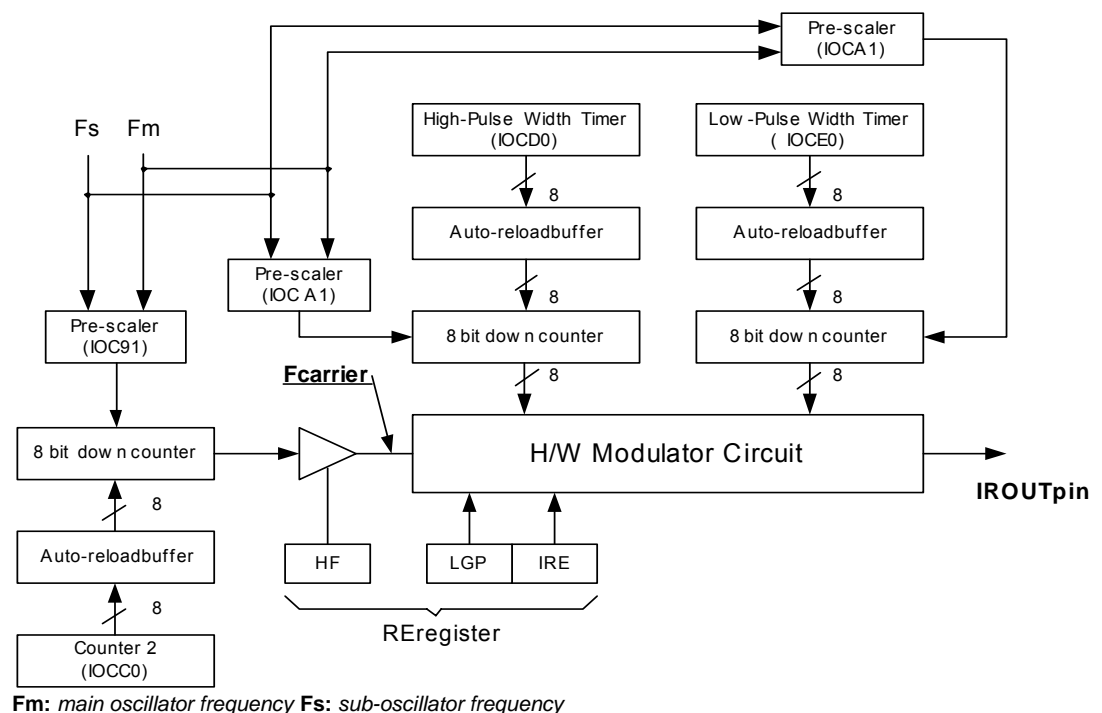

Fig. 6-20 IR/PWM System Block Diagram
This LSI can output infrared carrier in user-friendly or in PWM standard waveform. The IR and PWM waveform generated functions include an 8-bit down count timer/counter, high-pulse width timer, low-pulse width timer, and IR control register. The IR system block diagram is shown in Fig. 6-20. The IROUT pin waveform is determined by IR control register (RE), IOC90 (Counters 1 and 2 control register), IOCA0 (high-pulse width timer, low-pulse width timer control register), IOCC0 (Counter 2 preset), IOCD0 (high-pulse width timer preset register), and IOCE0 (low-pulse width timer preset register). Details on Fcarrier, high-pulse time, and low pulse time are explained as follows: